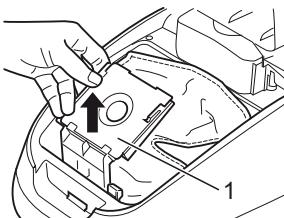

Fig. 19
3. Pull the dust bag holder together with the dust filter bag (Fig. 19/1) up and out (Fig. 19).